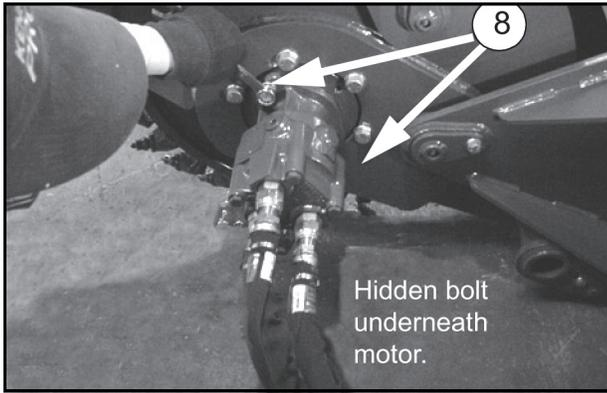

Figure 17.
7. Insert the motor in the gearbox motor mount. Install the two bolts, washers and O-ring (8) as shown in Figure 17.